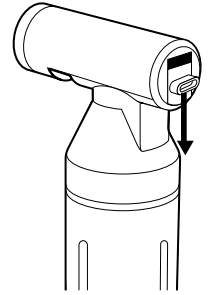

Figure 4. Slide lock in locked (down) position
3. Move the slide lock to the locked position (Figure 4).
11. After the tire is inflated, move the slide lock to the locked (down) position (Figure 4) and remove the Air Rush from the inner tube valve.